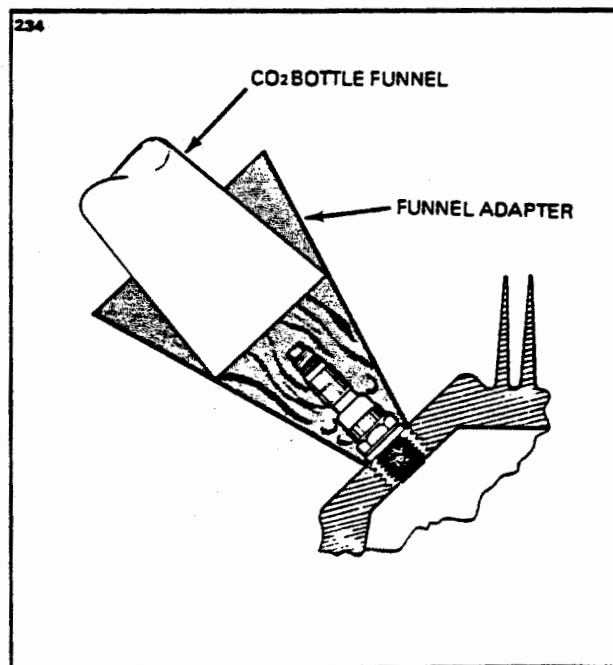

Figure 8-34. Removing Spark Plug Frozen to Bushing
8-41. **REMOVAL OF SPARK PLUGS.** (Refer to Figure 8-34.)
d. Removal of seized spark plugs in the cylinder may be accomplished by application of liquid carbon dioxide by a Conical metal funnel adapter with a hole at the apex just large enough to accommodate the funnel of a CO₂ bottle. (Refer to Figure 8-34.) When a seized spark plug cannot be removed by normal means, the funnel adapter is placed over and around the spark plug. Place the funnel of the CO₂ bottle inside the funnel adapter and release the carbon dioxide to chill and contract the spark plug. Break the spark plug loose with a wrench. A warm cylinder head at the time the carbon dioxide is applied will aid in the removal of an excessively seized plug.